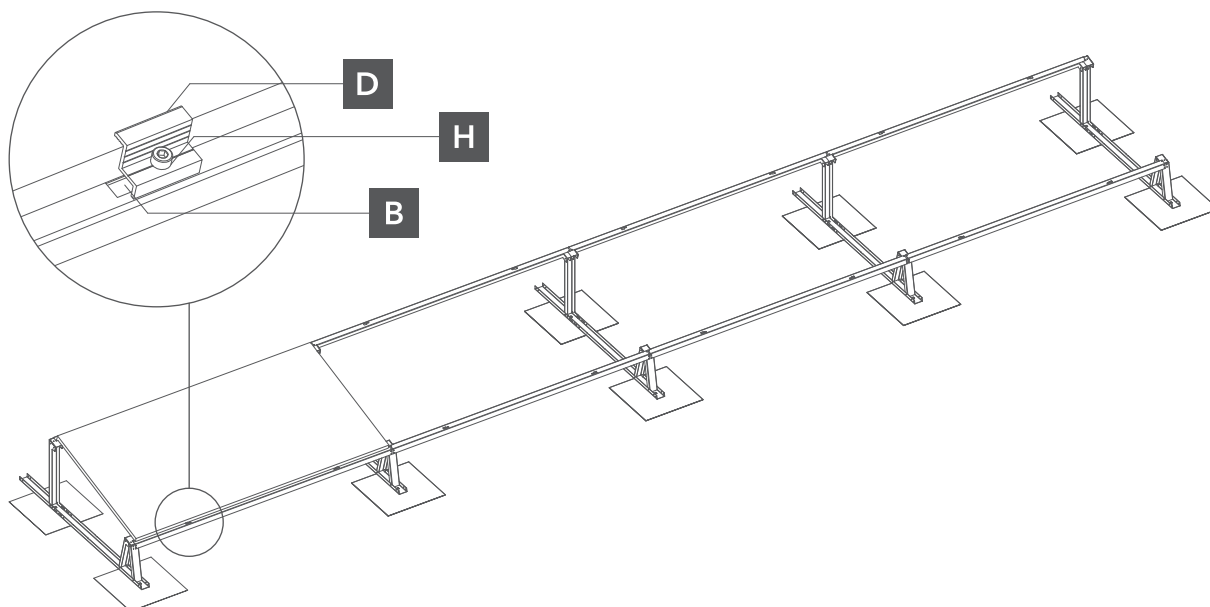

Fig. 6: Fastening the modules to the mounting triangle bracket.
- 5** We recommend placing the first, outermost photovoltaic module on the mounting brackets and securing it with the end clamps. The clamps are fastened with M8 Allen screws and wing nuts. This should be repeated until all modules are mounted in a row (Fig. 6).